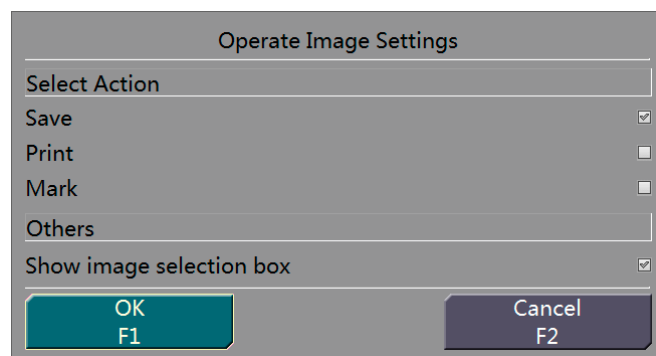

Figure 18-12 Operate Image Settings Interface
Step 1 Choose System Settings > Operate Image Settings or press the Increase key on the operation keyboard to display an interface, as shown in Figure 18-12.